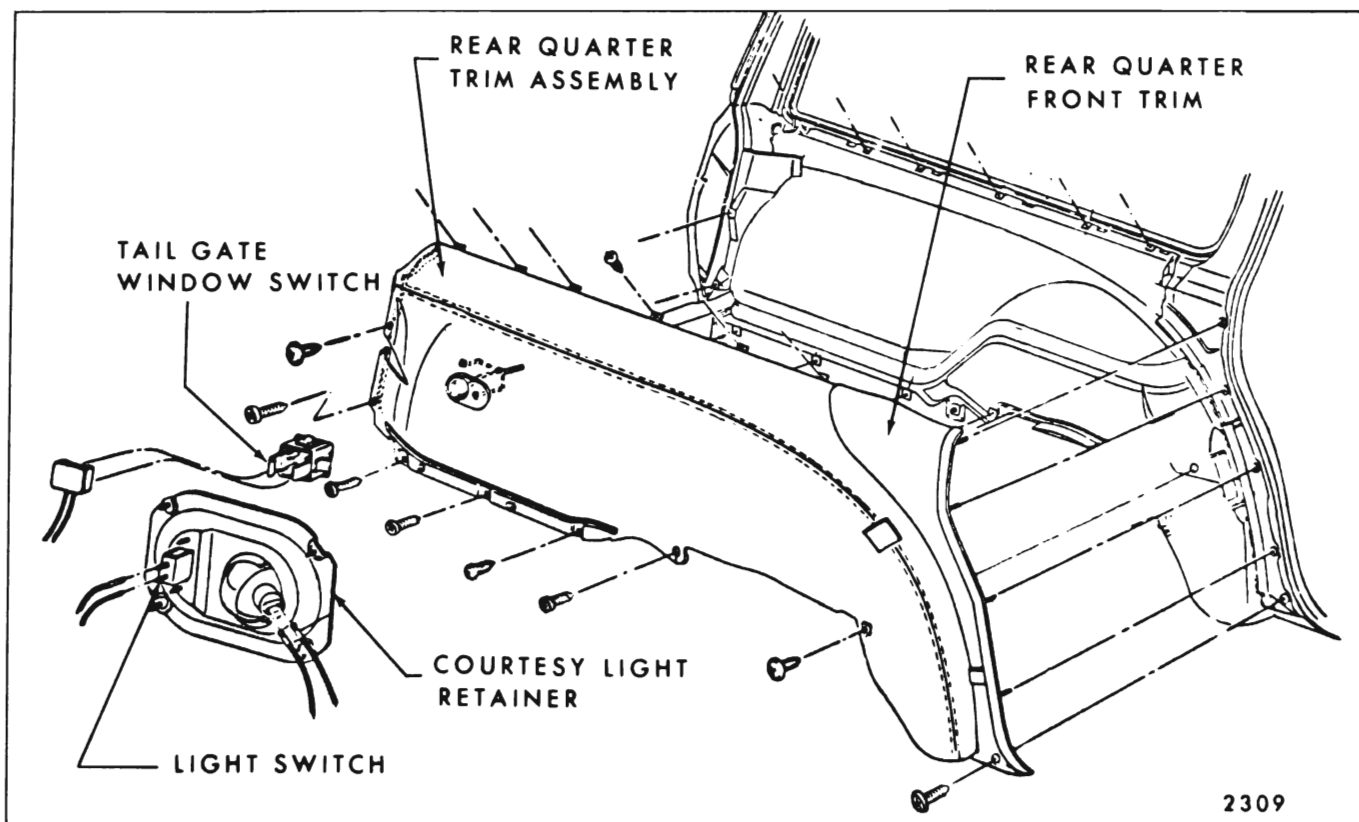

Fig. 14-34—Rear Quarter Trim Panel Left Side - "B" Station Wagons
2. Remove all screws securing trim panel to rear quarter inner panel (Fig. 14-34).
3. With a suitable flat-bladed tool, carefully disengage trim retainers from rear quarter inner panel along leading edge of rear body lock pillar (on front edge of rear quarter front trim assembly) (Fig. 14-34).
4. Lift assembly upward slightly to disengage from rear quarter inner panel and remove assembly from body. On styles equipped with courtesy lamp disconnect feed wire from switch and lamp (Fig. 14-34).